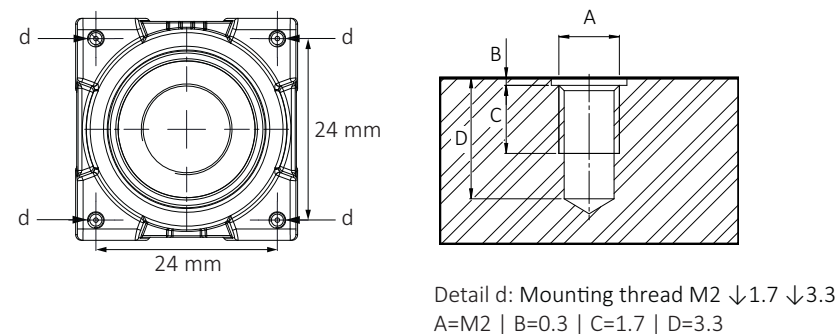

Figure 86: Camera front with mounting threads (d)
1. Mount the camera to the base using suitable M2 screws at 0.17 Nm maximum torque for a thread engagement (C) of 1.7 mm between screws and mounting threads, see Figure 86. For technical drawings, see Standard Alvium: Dimensions and mass on page 170.